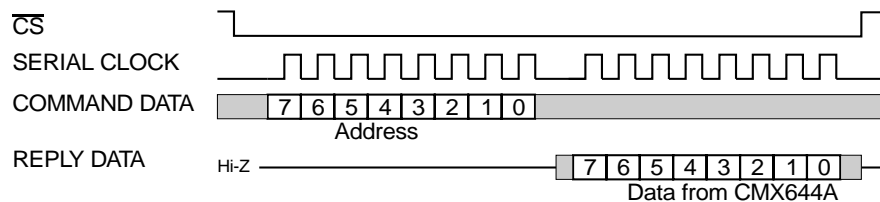

Figure 5: C-BUS Transactions (One Address byte from μ C and one Reply byte from CMX644A)
2. A single byte of data read out from one of the CMX644A's Read Only Registers, as illustrated in Figure 5.